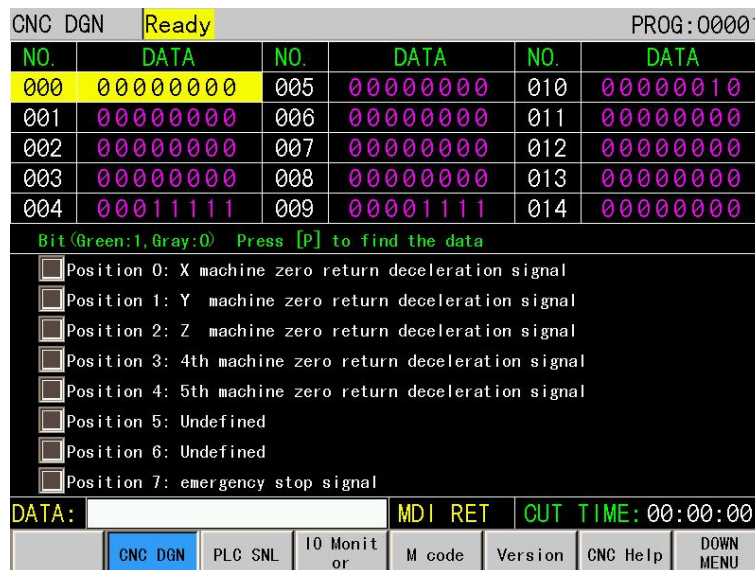

Figure 3-6-1-1
1、 Press the **【 CNC Diagnosis 】** soft key in the<Diagnosis>interface to enter the CNC diagnosis interface. See figure 3-6-1-1: